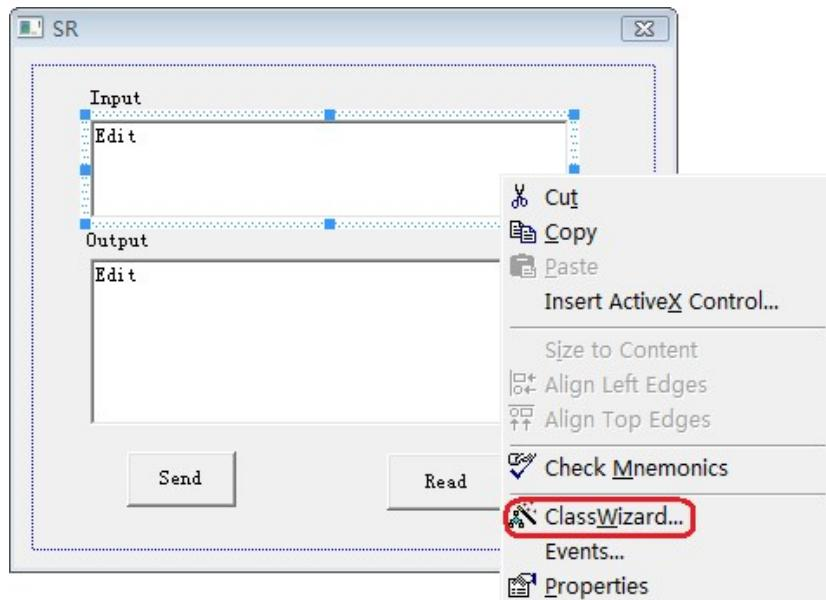
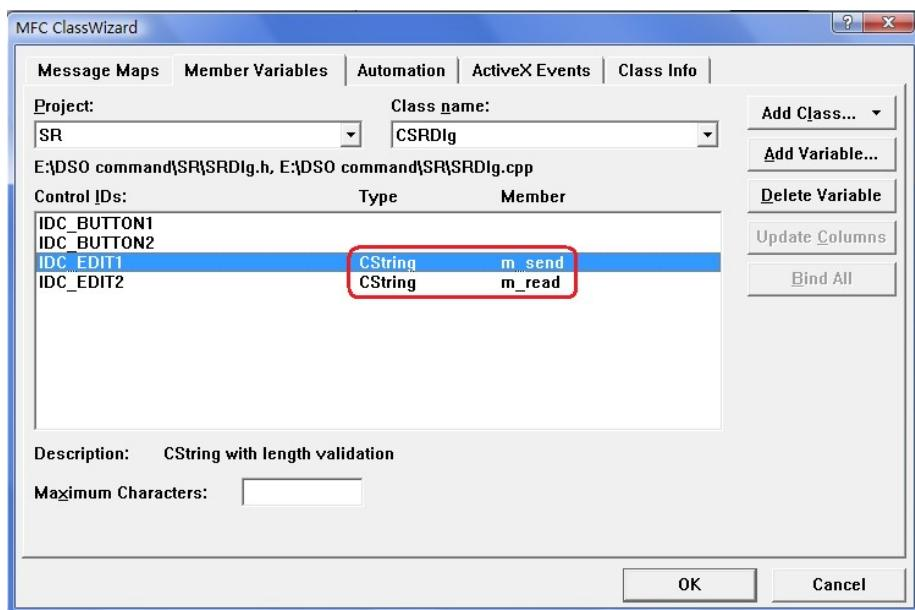

Figure 4-1-5 62
Figure 4-1-6
(1) Add two Static Text controls respectively named as Input and Output.
(2) Add two Edit controls, and then add two variables--m_send and m_read to them respectively. See figure 4-1-5 and figure 4-1-6.